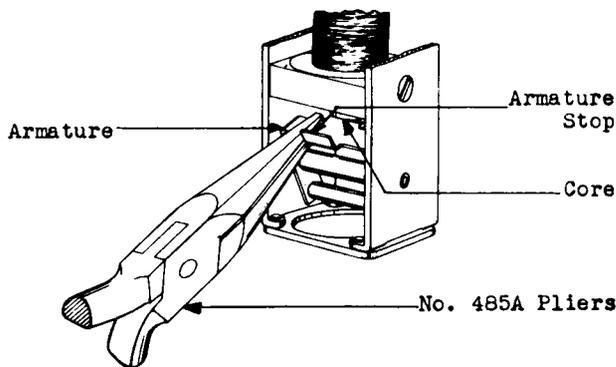

Fig. 9 - Method of Adjusting Armature
3.10 Armature Airgap: (Rq 2.10) - If the armature touches the face of the core, remove the relay from its mounting as covered in 3.002. Then adjust the armature slightly away from the core with the No. 485A pliers applied to each side of the offset portion as shown in Fig. 9. An increase in the separation between the armature and the core will have a direct effect on the electrical performance of the relay. Care must therefore be exercised in making this adjustment that the gap between the armature and core will not be so great as to prevent the armature from fully operating when the operate current is applied.